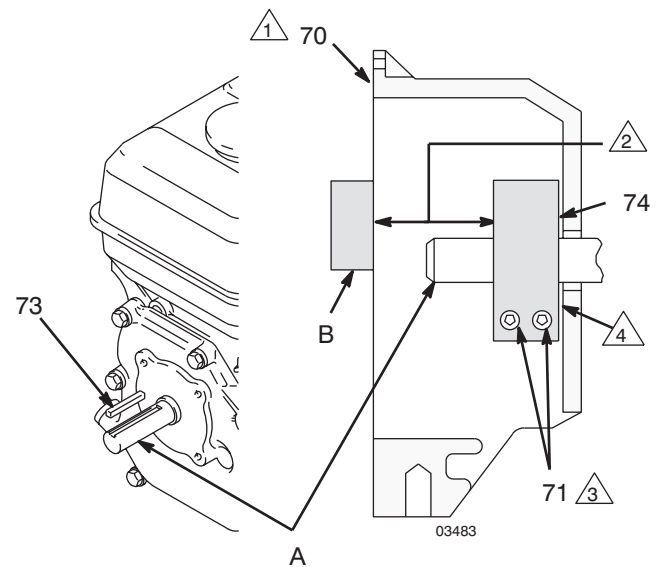

FIG. 11
1. FIG. 11. Loosen two screws (71) on clamp (74).
2. Push screwdriver into slot clamp (74) and remove clamp.
1. FIG. 11. Install engine shaft key (73).
2. Tap clamp (74) on engine shaft (A) with plastic mallet.
3. Press clamp (74) onto engine shaft (A). Maintain dimension shown in note 2, (see figure below). Chamfer must face engine.